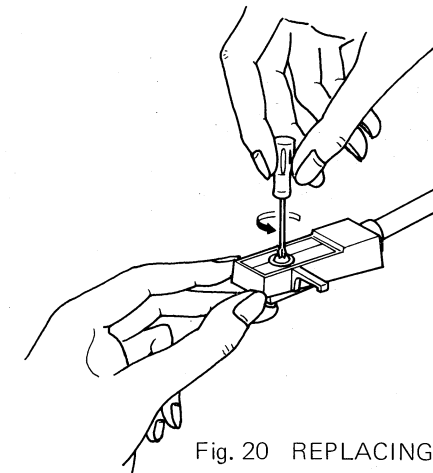

Fig. 20 REPLACING CARTRIDGE
3. Loosen cartridge holding screw, as shown in Fig. 20.